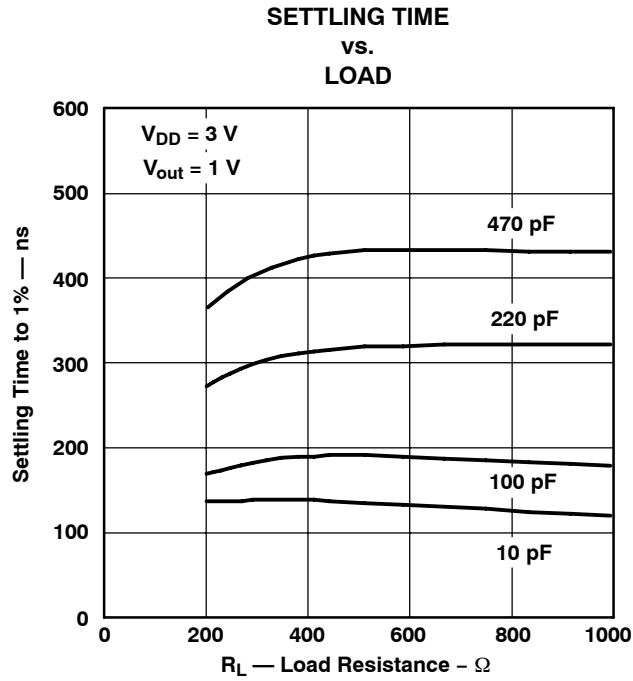

Figure 7
**Dynamic Characteristics over recommended ranges of supply voltage and operating free-air temperature (see Figures 7 and 8)**